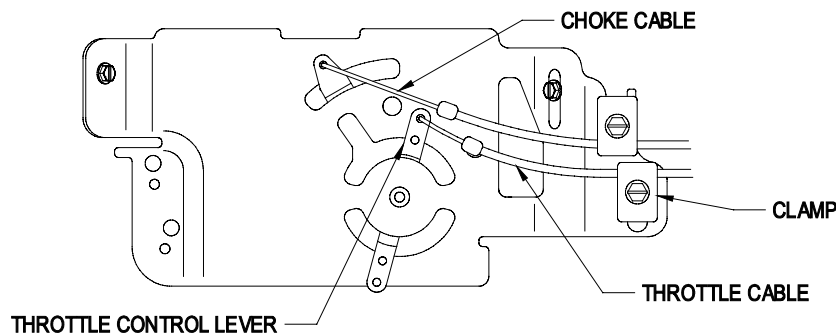

FIGURE 5
- g) Attach inner wire of the throttle cable to the top hole in the throttle control lever as shown in Figure 5.